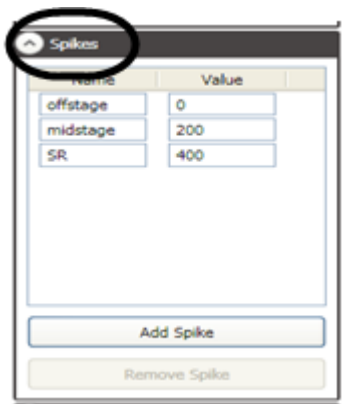

Figure 311
2. Go to the **Spikes** section of the **Stagehand Editing Pane** (Figure 311).